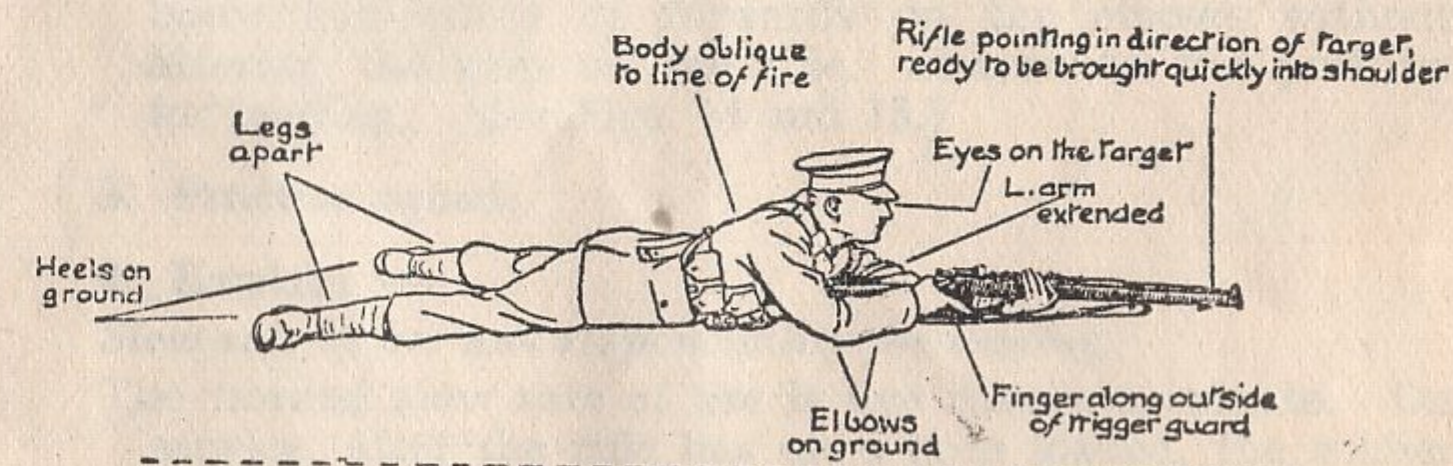

FIG. 13
*Man will be taught to adopt the lying position rapidly and to handle the rifle with as little movement as possible. The oblique angle of the body (see Fig. 13) must not be exaggerated.*
- i. To lie down.—Take a long pace forward to the right front with the left foot. At the same time change the rifle into the left hand, grasping it at the point of balance. Place the right hand on the ground in line with the left foot and lie down: during this movement push the rifle forward in the direction of the target and lower it to the ground; the left arm will now be extended to the front (see Fig. 13).